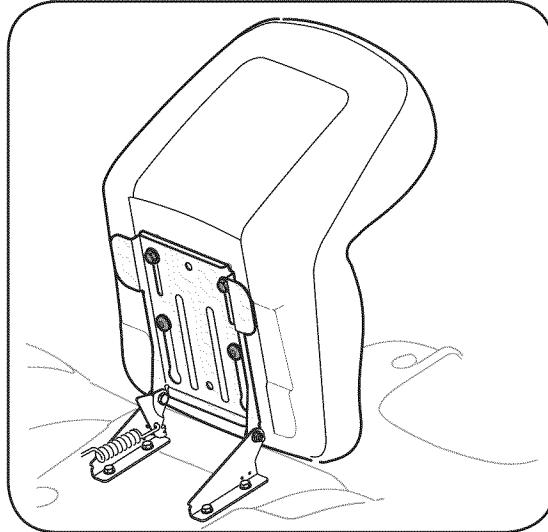

Figure 4
If the seat for your tractor did not come attached, refer to Figure 4, Figure 5, and Figure 6 to identify your tractor's seat style and follow the applicable instructions below to attach it.
1. Position the shoulder screws (found on the base of the seat) inside the slot openings in the seat pivot bracket. Figure 4.
3. Select desired position for the seat, and secure with the two hex screws removed earlier. See Figure 4.